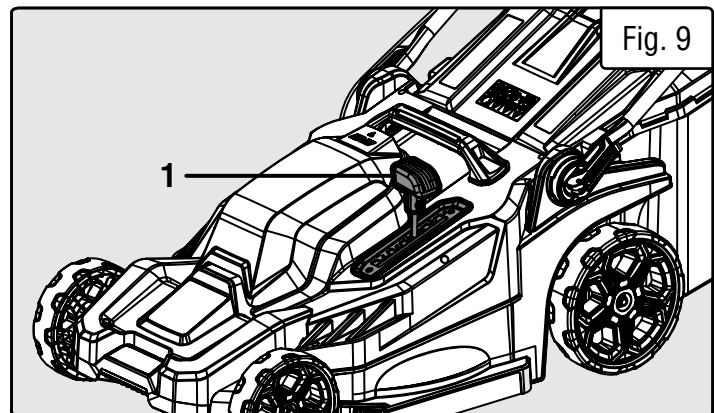

Fig. 9
2. Move the cutting height adjustment lever (Fig. 9 - 1) to the desired cutting height.